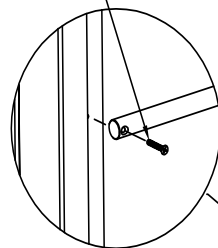

Figure 15
- Attached push bar at the hinge stile. See Figure 15.
- Attached push bar into the hinge stile. See Figure 15.